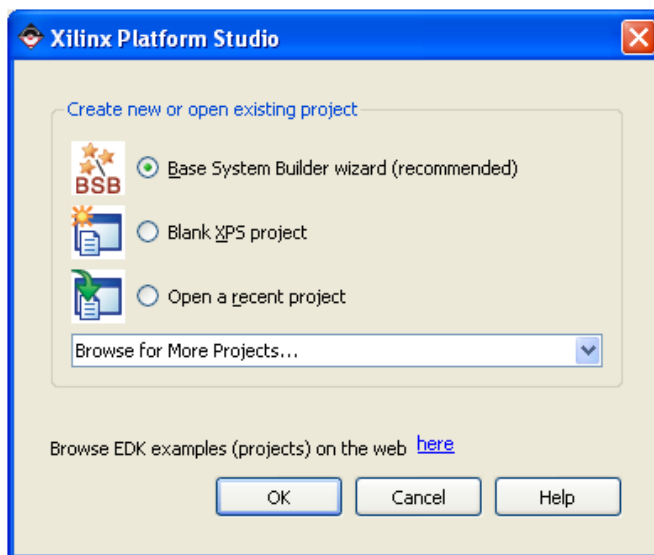

Figure 3. New Project Creation Using Base System Builder
- 1-1-2. Leave the default **Base System Builder wizard (recommended)** option and click **OK** to start the wizard (**Figure 3**). If you clicked cancel, you can select **File → New Project** and the same dialog box will appear.